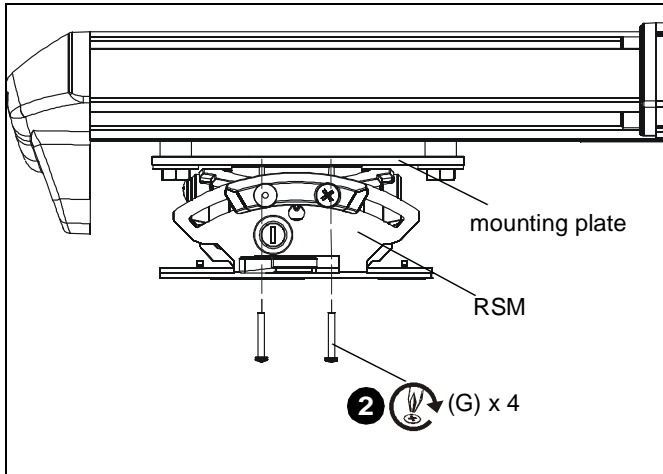

Figure 15
2. Install four #10-24 x 1 3/8" Phillips pan machine screws (G) through RSM holes and into projector mounting plate. (See Figure 15)